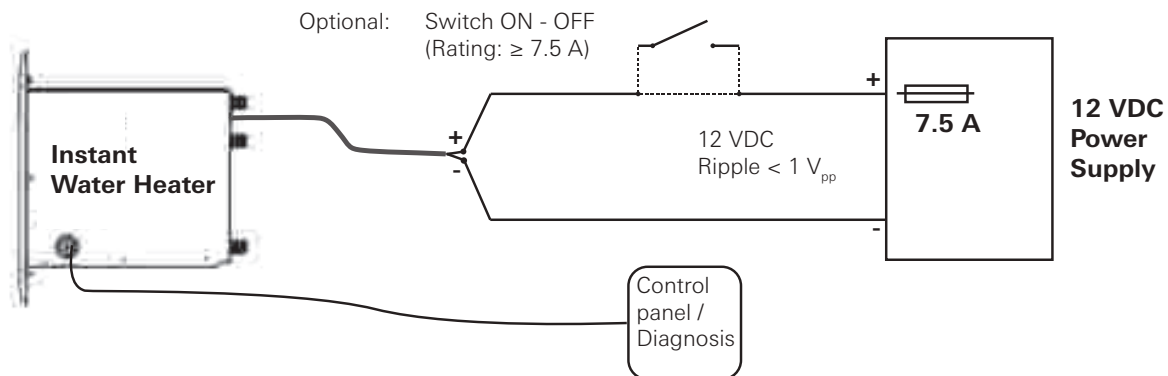

Fig. 19
- Connect the hose for cold water (1) at the bottom of the appliance.
- Connect the hose for hot water (2) at the top of the appliance.
- **AquaGo comfort plus only:** Connect the hose for the circulation line (3).
- Connect the electrical lines with the proper polarity to the 12 VDC power supply. Refer to “Electrical connection for all models” on Page 22. Install a 7.5 A fuse exclusively dedicated to the appliance (see Fig. 19).